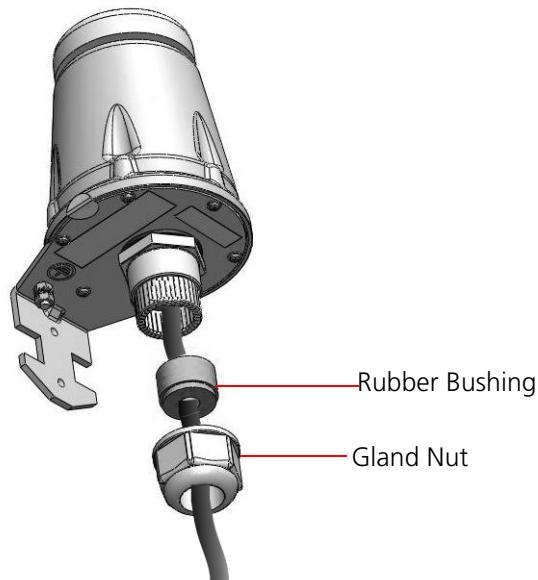
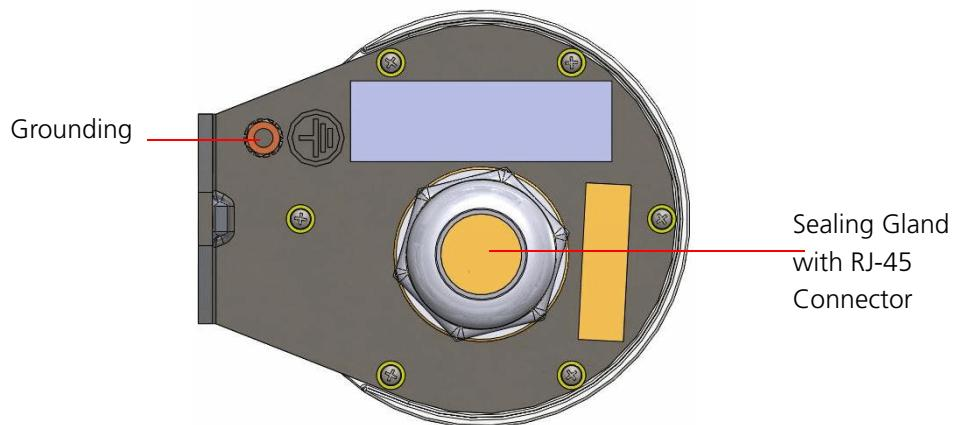

Figure 2-17: Connecting the GPS Cable
Figure 2-18: GPS Bottom View
- 5 Insert the GPS cable (side labeled GPS) into the sealing gland base (Figure 2-17) and connect it to the RJ-45 connector at the bottom of the GPS (Figure 2-18).